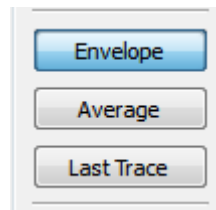

Figure 6-11: Plot controls
The main graph window displays the current-voltage (IV) characteristic and its first derivative which is proportional to the ion energy distribution function. These graphical display is controlled by the 'Plot controls' menu seen in Figure 6-11. The different graph options are discussed in more detail in the following sections.